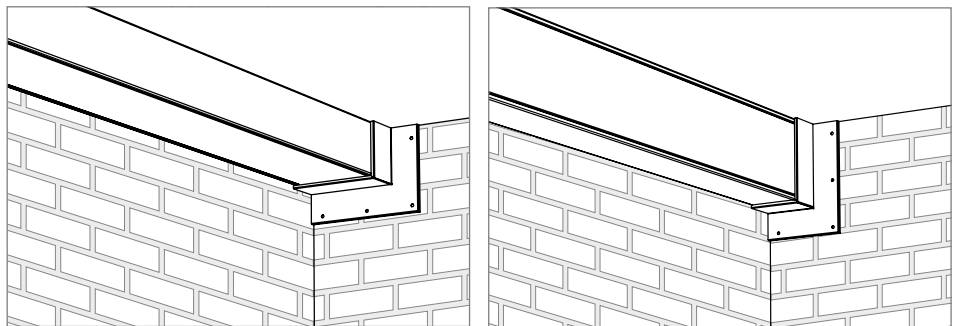

Fig. 44: Wall connection collar set 2-sided
2. Mount the wall connection collar ① as in Fig. 44.
3. Seal the component opening from the other side with an approved insulation ②.